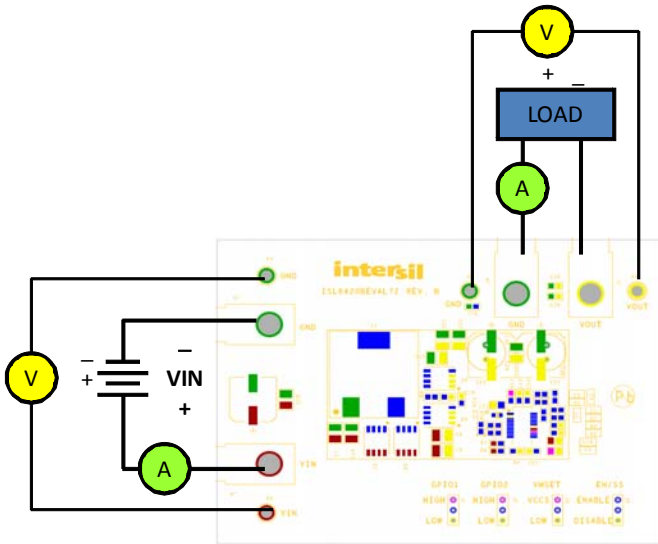

FIGURE 2. ISL6420BEVAL7Z TEST SET-UP
1. Ensure that the Evaluation board is correctly connecting to the power supply and the electronic load prior to applying any power. Please refer to Figure 2 for proper set-up.